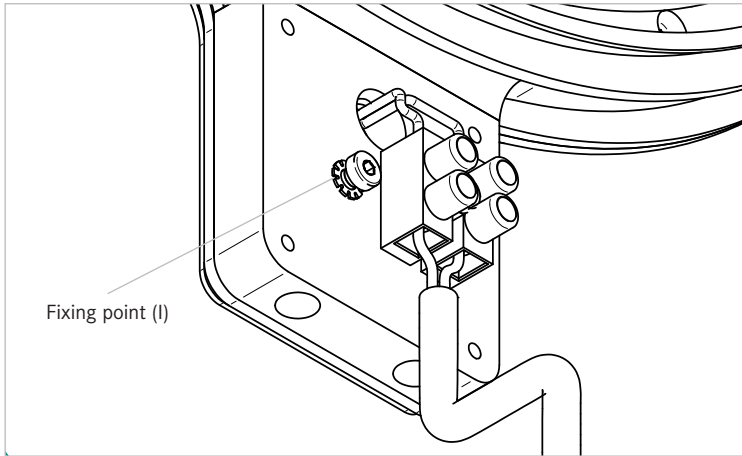

Figure 8: Electrical power connection SPINVISTA
- Optionally, you can attach a ground wire to the housing. To do this, provide a grounding cable with a ring eyelet and then screw the grounding cable to the fixing point (I) using the appropriate screw and the toothed washer (Figure 8).
- You can choose the attachment position in 3 positions (see Figure 8)